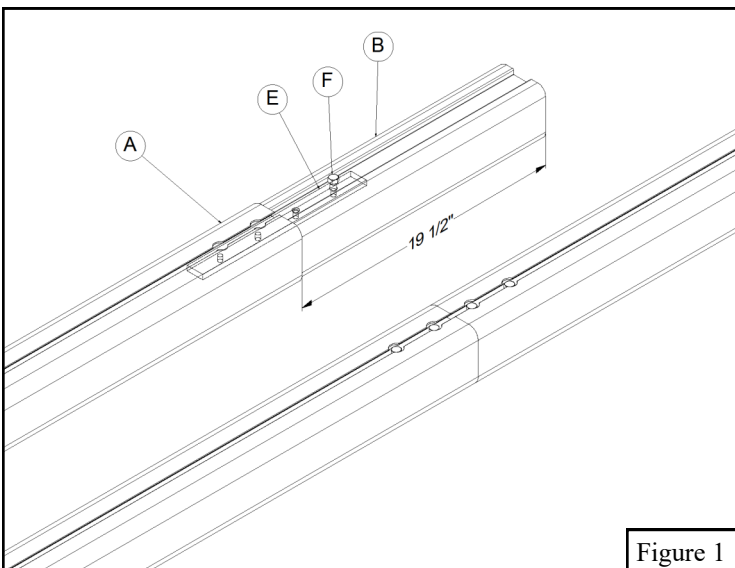

Figure 1
1. Place two *Crossbar Sections* (A) end to end with the rear net attachment track facing upward. Insert the *39" Inner Connecting Tube* (B) approximately 19 1/2" into the end of one *Crossbar Section* (A). Using *Connecting Bar* (E) and *3/8" X 1" Hex Bolts* (F) complete assembly of crossbars as shown. For ease of installation temporarily install one *3/8" X 1" Hex Bolt* (F) into *Connecting Bar* (E) inside of the *39" Connecting Tube* (B). **Note:** Not required on 12' or 9' wide goals. See Figure 1.